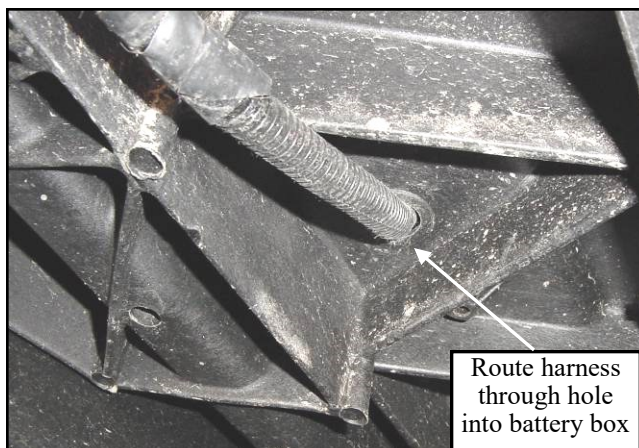

Figure 3.8 (view under driver's side floorboard)
3.8 Per fig. 3.8, route harness up through existing hole into battery box area. Secure with p-clamps and #10 self-drilling/tapping screws.